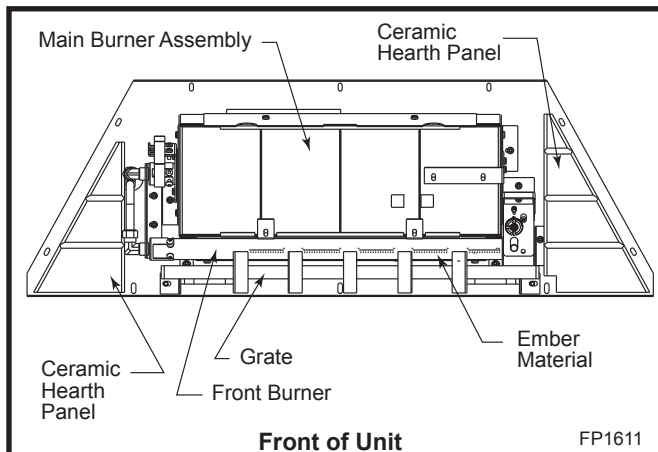

Fig. 49 Ceramic hearth panel location.
2. Set left and right panels on hearth and bring towards front of unit. (Fig. 49)